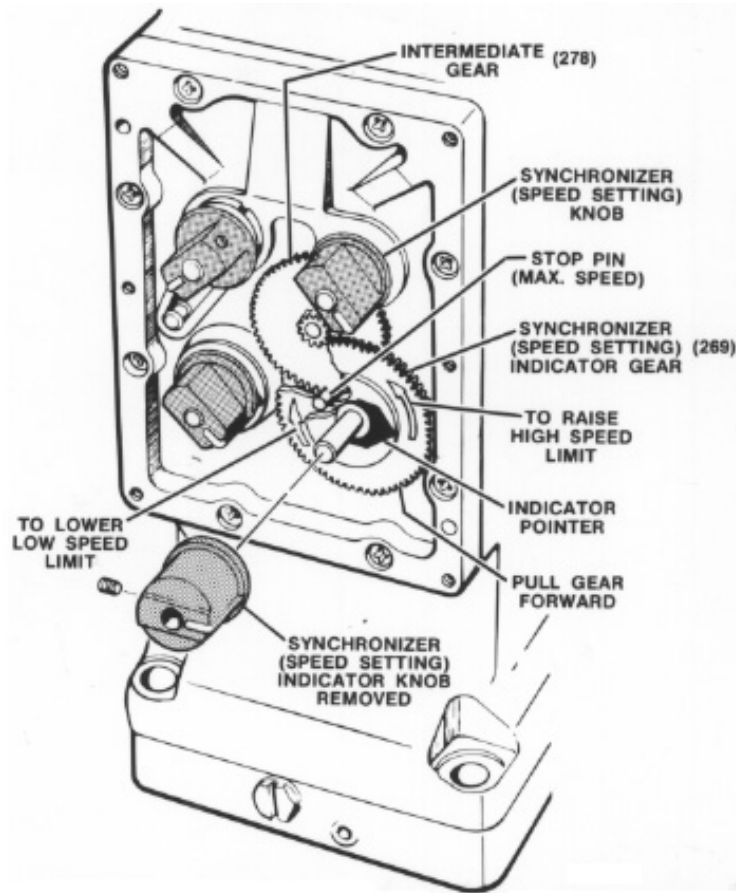

Figure 4-1. Maximum/Minimum Speed Stop Adjustment on the UG-15 Dial Governor
13. Set the maximum and/or minimum speed limit on the governor. This adjustment can also be made with the prime mover running. To make the adjustment, first remove the governor dial plate (see Figure 4-1).